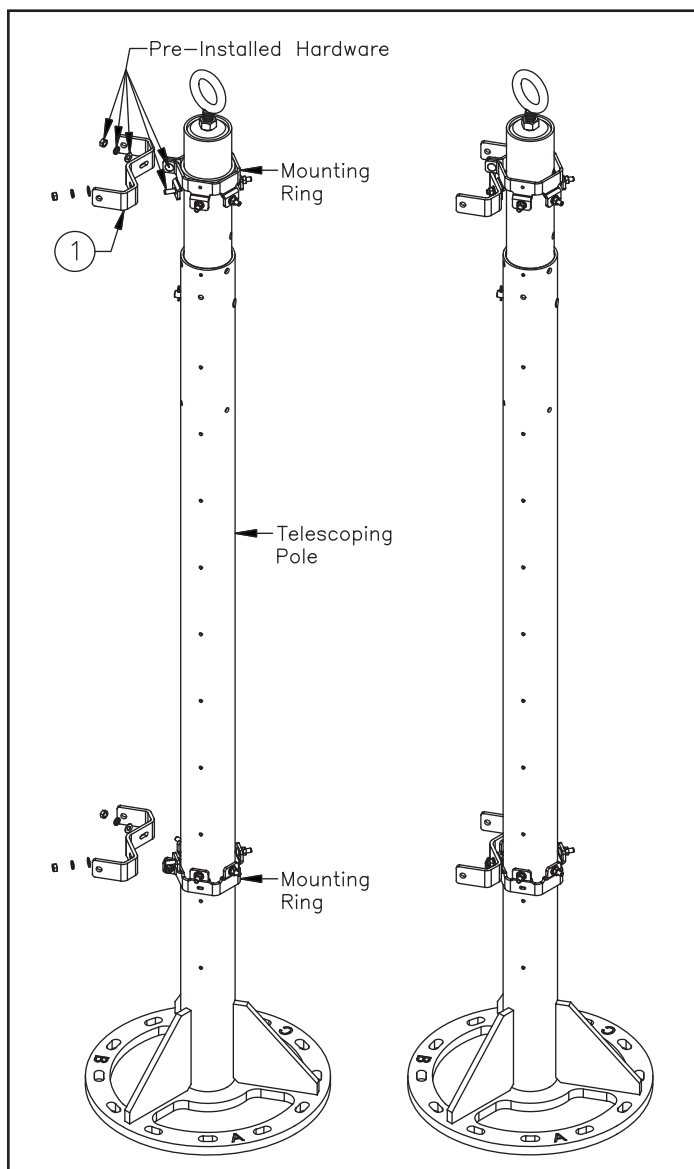

Figure 4. Attaching Pole Brackets to Universal Tree Stand.
5. Remove and save the nuts and washers from the top and bottom mounting ring tabs for each sector that will be used to attach an antenna (Figure 4).
6. Slide the pole brackets (Item 1) onto the carriage bolts that extend outward from the mounting ring tabs. Using the hardware saved from the previous step, secure the brackets to the mounting rings (Figure 4).